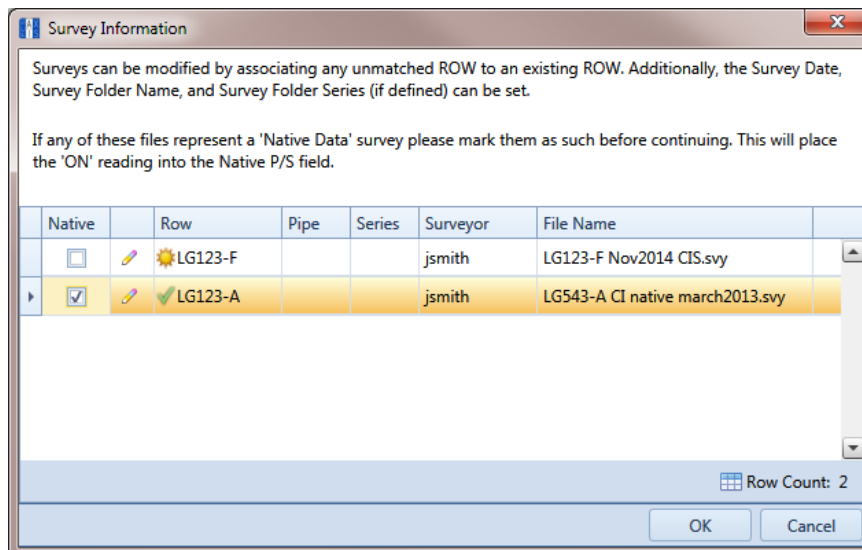

Figure 13-20. Mark Native
- 6 Click  **Import** to open the *Mark Native* dialog box (Figure 13-20).